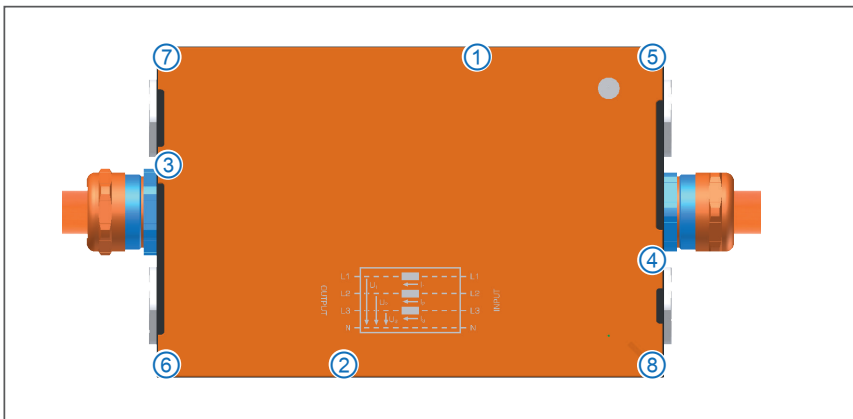

Fig. 4-9: HV BM 3.1, housing closed and HV power cable mounted
-  Use the eight Allen screws to fasten the lid. Tighten the screws in the specified order (Fig. 4-9, ① to ⑧).